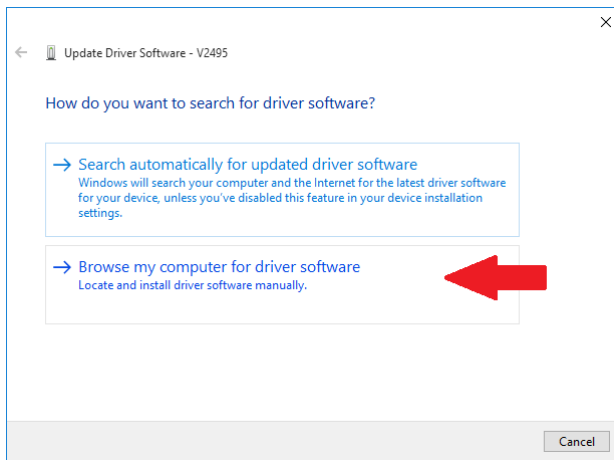

Fig. 11.3: USB driver manual installation: Step2
5. Select *Browse my computer for driver software* as in **Fig. 11.3**.